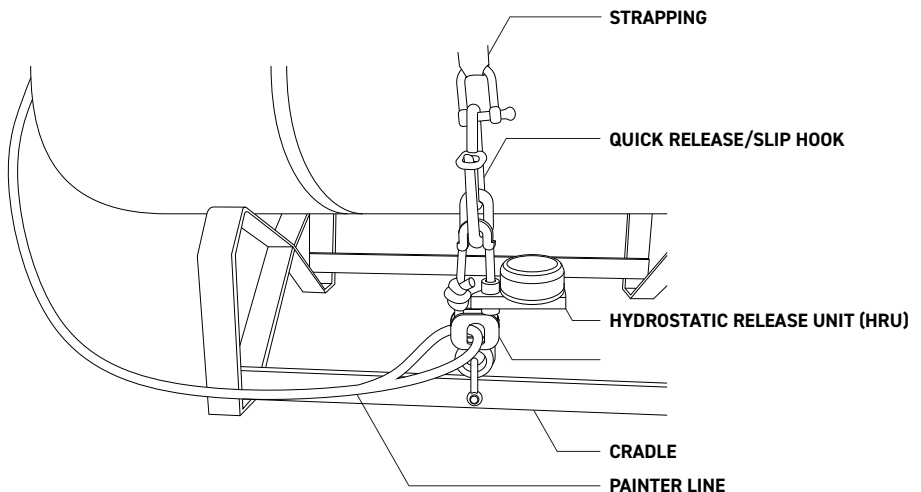

Fig 2 - HRU Configuration
- If connected to a HRU (best practice) then only withdraw sufficient painter line to reach and tie off to the link on the HRU. (see Fig 2 for simple HRU configuration).